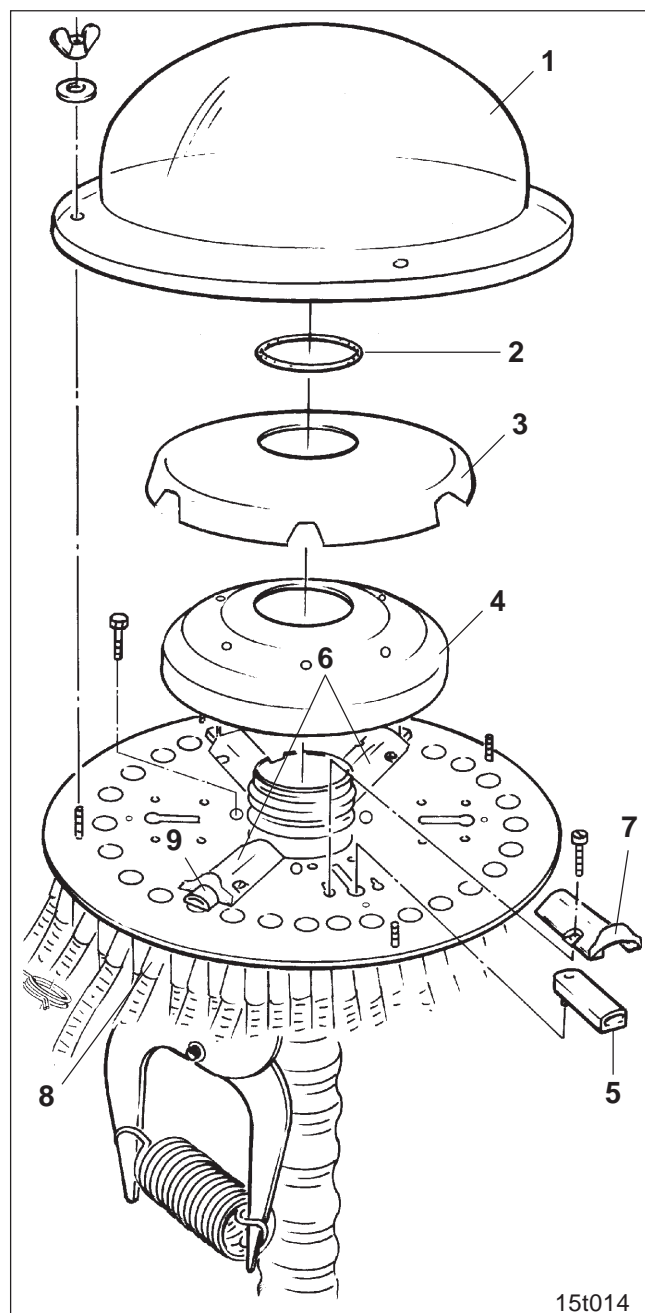

Fig. 26.13
Tramlines are marks in which no seed is sown. The spacing of the marks corresponds to the wheel marks of the husbandry tractor. When supplied, the tramlining control of the sowing module is set to the wheel marks of your husbandry tractor. Should it become necessary, e. g. when purchasing a new husbandry tractor, to set the tramlining control to the track of the new tractor, the seed tubes (Fig. 26.13/8) on the distributor head have to be interchanged. Hereby observe that the tramlining coulters are fixed to the outlets which can be closed by the shutters (Fig. 26.13/9).
- Distributor outer hood (Fig. 26.13/1),
O-Ring (Fig. 26.13/2),
Distributor inner hood (Fig. 26.13/3) and
demount foam material insert (Fig. 26.13/4).
It is possible to fit up to 6 shutter slides. Always two shutter slides (Fig. 26.13/6) should be fitted on the base plate opposing each other. For mounting or demounting the shutter slide (Fig. 26.13/5) the shutter slide tunnel (Fig. 26.13/7) has to be removed.